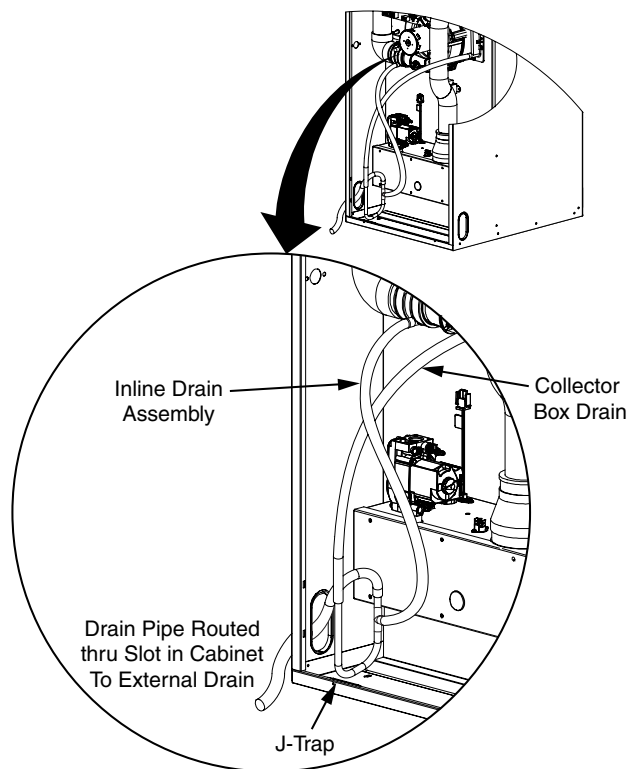

Figure 18. Condensate Drainage
- The condensate drain may exit through the left or right slots in the bottom of the furnace (Figure 18). Make sure the flexible drain hose is not kinked.
1. Remove the collector box soft tube (Figure 18) and verify the exit from the collector box is clear of any debris or obstructions.